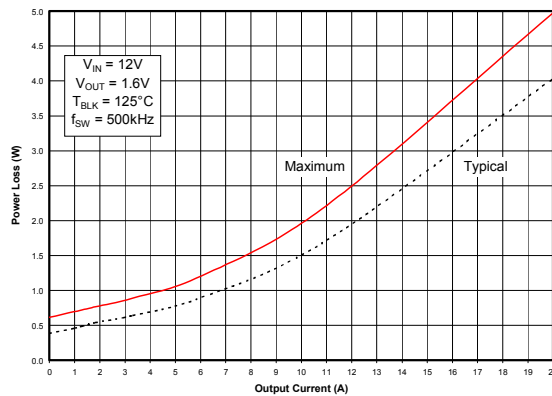
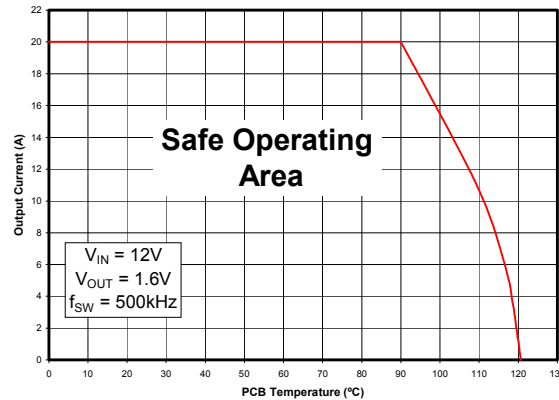
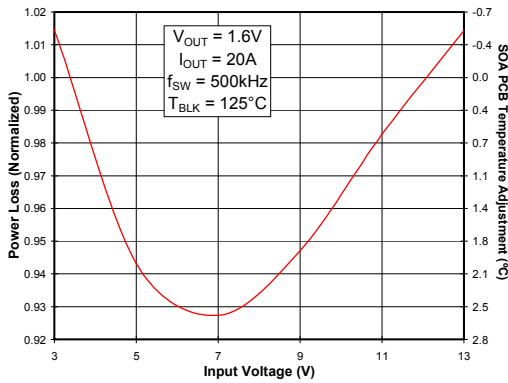

Fig 1. Power Loss vs. Current
Fig 2. Safe Operating Area (SOA) vs. T_{PCB} *
Fig 3. Normalized Power Loss vs. V_{IN}
| Output Voltage Range | V_{OUT} | 0.9 | - | 3.3 | V | see Figs. 2 & 4 |
| Output Current Range | I_{OUT} | - | - | 20 | A | see Fig. 2 |
| Operating Frequency | fsw | 150 | - | 1000 | kHz | see Figs. 2 & 5 |
To make adjustments to the power loss curves in Fig. 1, multiply the normalized value obtained from the curves in Figs. 3, 4, 5 or 6 by the value indicated on the power loss curve in Fig. 1. If multiple adjustments are required, multiply all of the normalized values together, then multiply that product by the value indicated on the power loss curve in Fig. 1. The resulting product is the final power loss based on all factors.
To make adjustments to the SOA curve in Fig. 2, determine the maximum allowed PCB temperature in Fig. 2 at the required operating current. Then, add the correction temperature from the normalized curves in Figs. 3, 4, 5 or 6 to find the final maximum allowable PCB temperature. When multiple adjustments are required, add all of the temperatures together, then add the sum to the PCB temperature indicated on the SOA graph to determine the final maximum allowable PCB temperature based on all factors.
- (Fig. 1) Maximum power loss = 5W
- (Fig. 3) Normalized power loss for input voltage ≈ 0.925
- (Fig. 2) SOA PCB Temperature = 90°C
- (Fig. 3) Normalized SOA PCB Temperature for input voltage $\approx 2.6^\circ\text{C}$